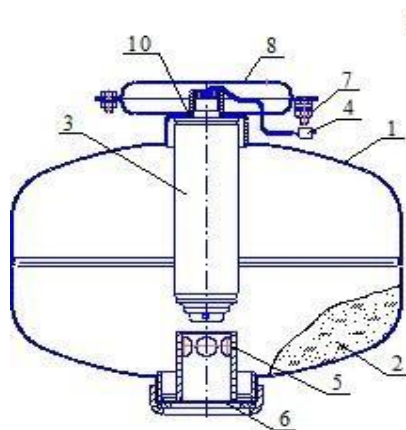
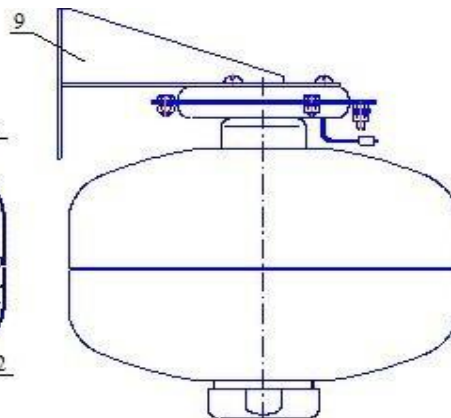
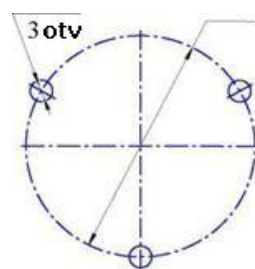

Figure 1
Figure 2
Figure 3
4.1 MPH (Figure 1. and Figure 2.) consists of the pressure body 1 , which includes: extinguishing powder (HP) 2 and cold gas generator (GSP) 3 with electric fuse 4 . On the other side of the hood is the atomizer insert 5 , as well as the outlet, which closes with a membrane 6 . The module is equipped with a grounding terminal 7 . The upper part of the MPH s equipped with a holder for the ceiling 8., or for the wall 9.
4.3 After receipt of an electrical impulse to the electrical output switch 4GSP 3 (Figure 1,2), the gas generator is activated and generates a cold gas that puts the interior of the container under pressure. As soon as the necessary pressure is present, the membrane opens 6 and the extinguishing powder comes out of the module through the atomizer 5.
6.2 Suspension 8 can be mounted under the ceiling (Figure 1) or suspension 9 (Figure 2) can be attached to the wall. Please mark the places for attaching the suspension as on the (Figure 3) and on the wall acc. (Figure 4).